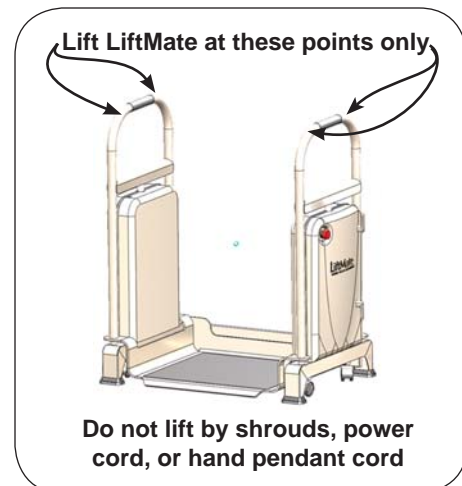

Figure 3. LiftMate Lift Points
- Lift only at points indicated in Figure 3. Do not lift at other points.
Do not lift LiftMate at any point other than the lift points indicated in Figure 3. Do not lift by shrouds, power cords, or hand pendant cords. Serious damage to the LiftMate, or personal injury may occur if attempting to lift unit at an undesigned lift point.